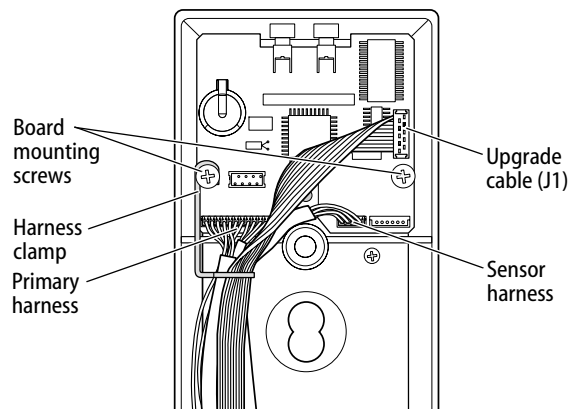

Figure 1 Disconnecting and reconnecting the sensor harness
- 3 Disconnect the upgrade cable from the electronics board (Figure 1).
- 3 Position the primary harness, sensor harness (EV, FV, and LV function mortise locks), and upgrade cable under the clamp (Figure 1).